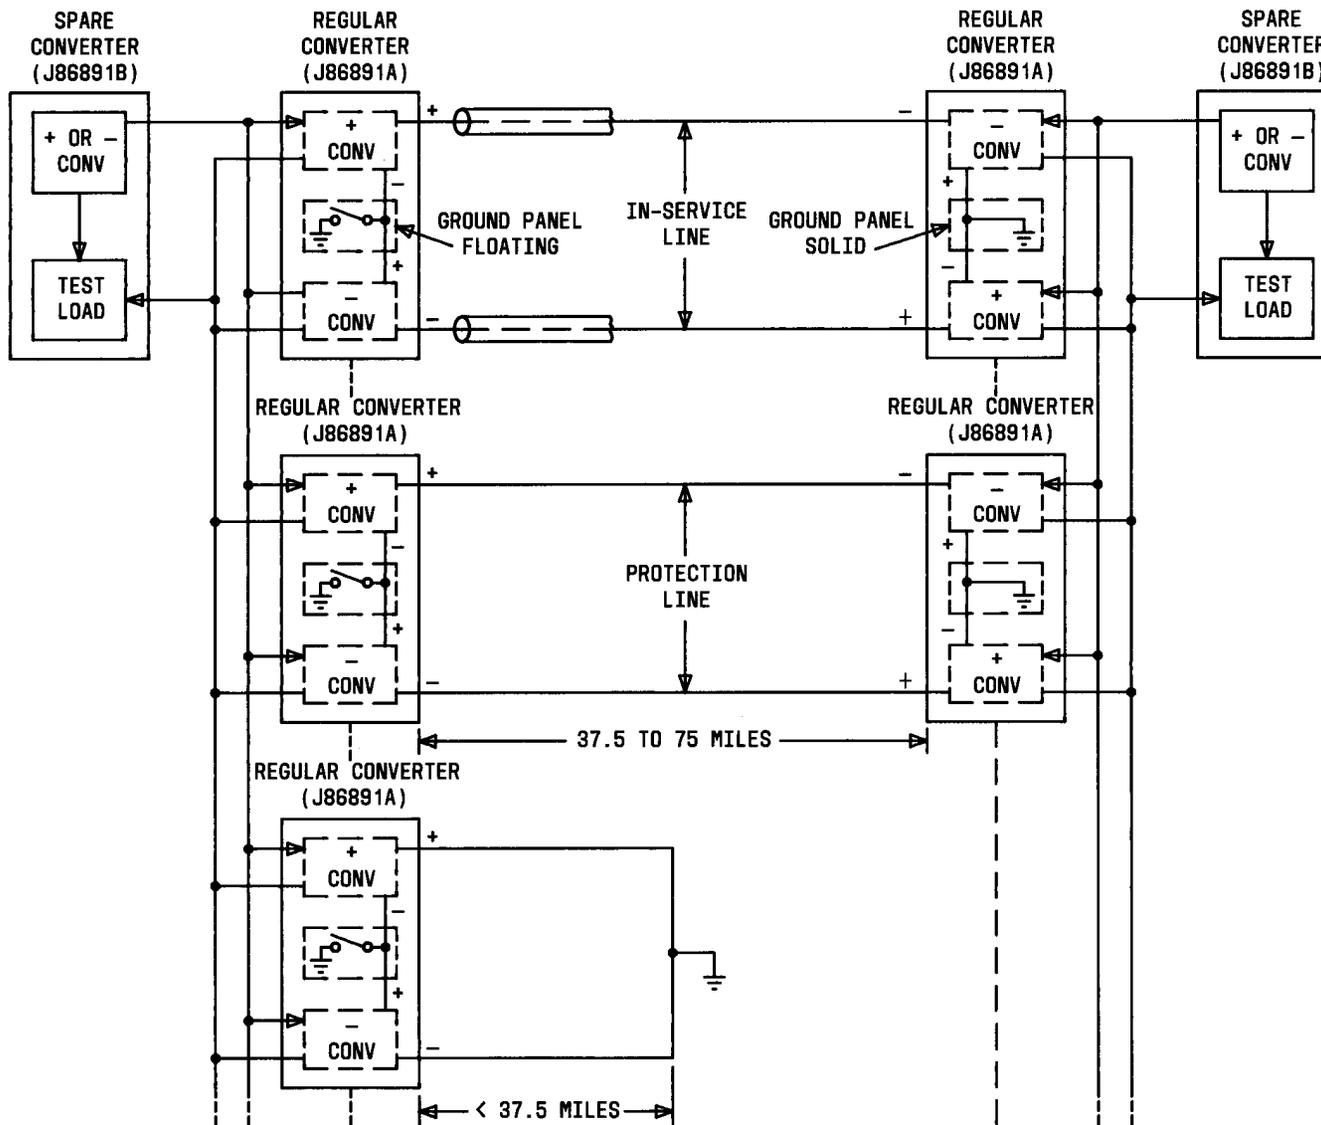

Fig. 5—L5/L5E Coaxial Cable System Power Feed Arrangement
1.12 Each 680A power plant installation consists of at least two regular CONVERTERS (J86891A) and one SPARE CONVERTER (J86891B). One regular CONVERTER powers the in-service line, and the other regular CONVERTER powers the protection line. In a L5/L5E system, one protection line will provide service protection for up to ten regular in-service lines. The SPARE CONVERTER (J86891B) can replace any regular POSITIVE or NEGATIVE CONVERTER in its PATCH system. Whenever the SPARE CONVERTER is patched to a coaxial line, the regular CONVERTER is patched into the test load side of the SPARE CONVERTER (J86891B) bay. (See Fig. 5.)